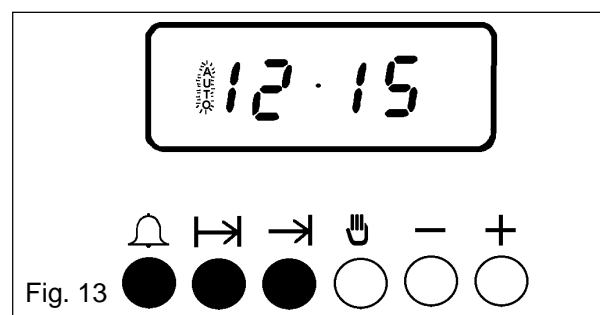

Fig. 13
- To stop the sound press any of the first three buttons, as Fig. 13.